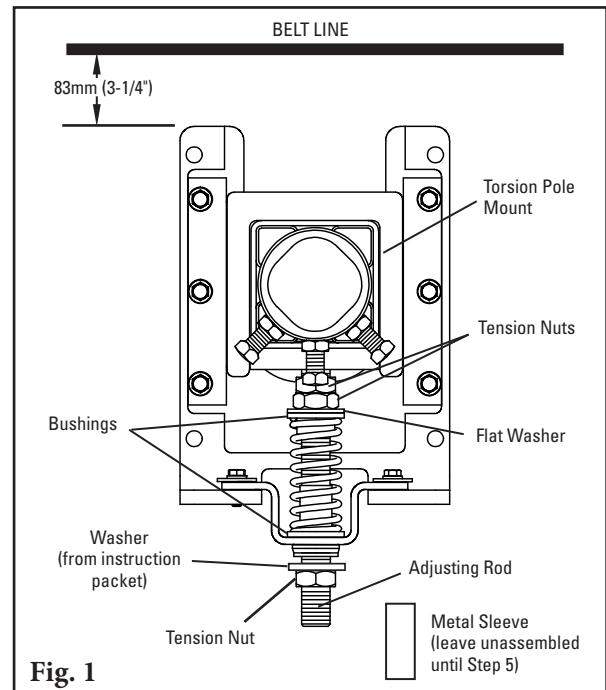

Fig. 1
- 1. Reconfigure the standard pull-up tensioner to the push-up style.** Remove the 3 tension nuts, the flat washer, 2 bushings, the spring, the sleeve and the hat bracket; reassemble (Fig. 1) with 2 tension nuts, the flat washer, 2 bushings, the spring and the hat bracket on the upper end of the adjusting rod. Add washer (from instruction packet) and 3rd tension nut to bottom of adjusting rod.
- 2. Install the tensioner mounting bases.** Mount the bases to the structure or chute so that the tops of the base legs are 83 mm (3-1/4") below the belt (Fig. 1).
1. **Disassemble guide kit.** Remove nuts and washers from both sides of tensioner (Fig. 1).